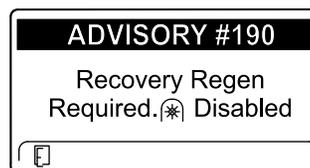

Figure 76
- Recovery regeneration required—power takeoff disabled ADVISORY #190 (Figure 76)